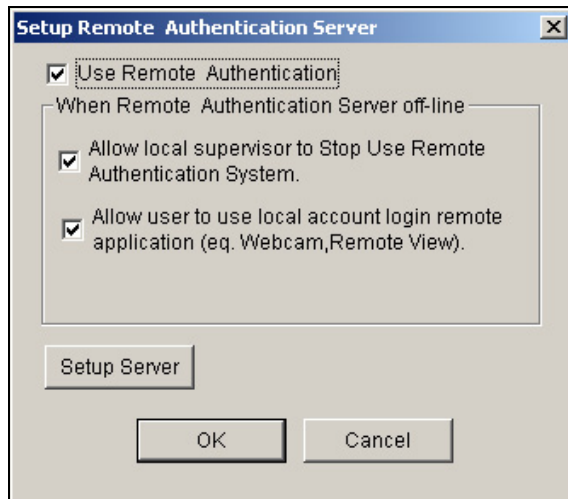

Figure 11-30 Setup Remote Authenticator Server
2. Click the **Setup Server** button in Figure 11-30. This dialog box appears.